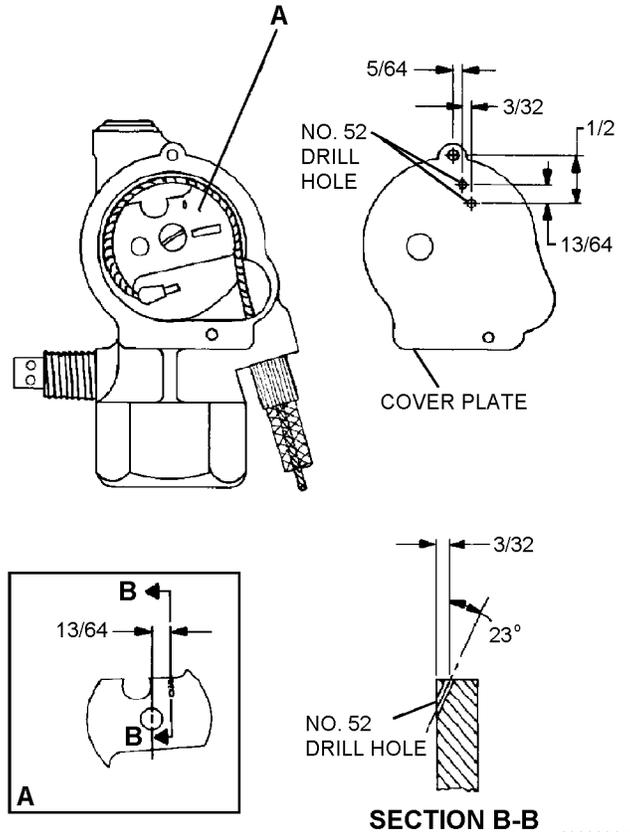

Figure 9-15. Drilling A128 Inflation Valve
3. Using a no. 52 drill, drill two holes in cover plate. See figure 9-15.
6. Using a no. 52 drill, drill a hole at a 23° angle in the valve sheave. See figure 9-15.